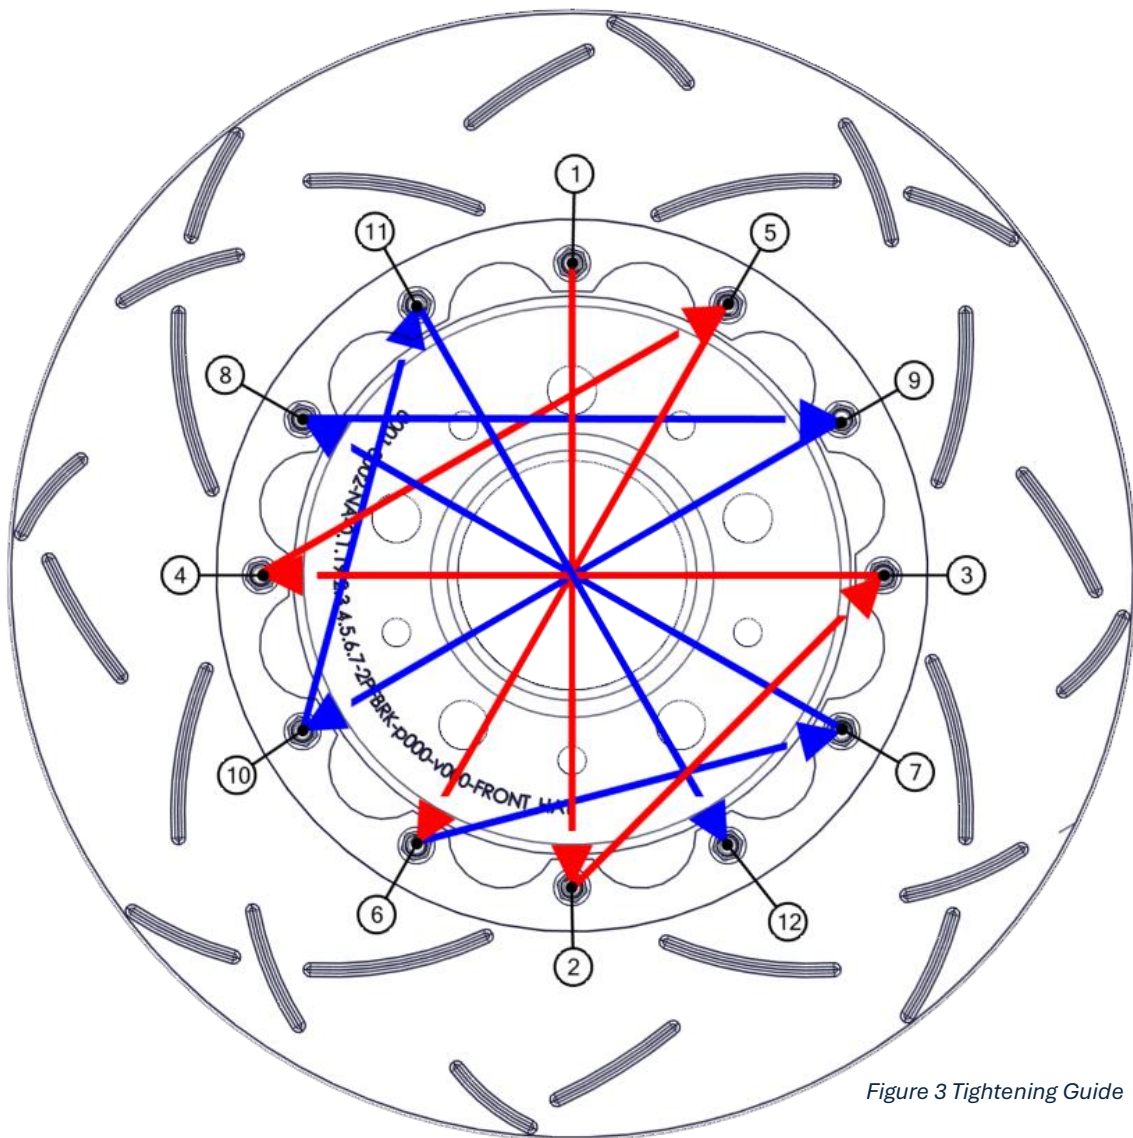

Figure 3 Tightening Guide
4. Torque the nuts to 5Nm in a cross-star pattern per Figure 3 Tightening Guide.
5. Torque the nuts to 13Nm in a cross-star pattern per Figure 3 Tightening Guide. **CAUTION NAS1291C4 are single use only. If the bolts need to be undone or retorqued they MUST be replaced.**